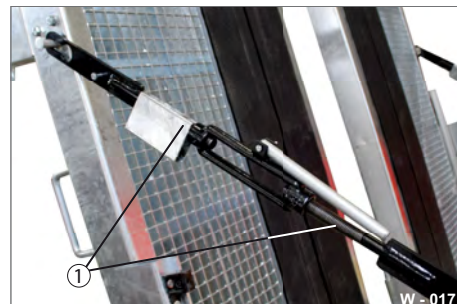

Fig. 20 Lubricating securing tensioner 2
- ▶ Lubricate the threaded linkage (Fig. 19/1 and Fig. 20/1) with machine grease.